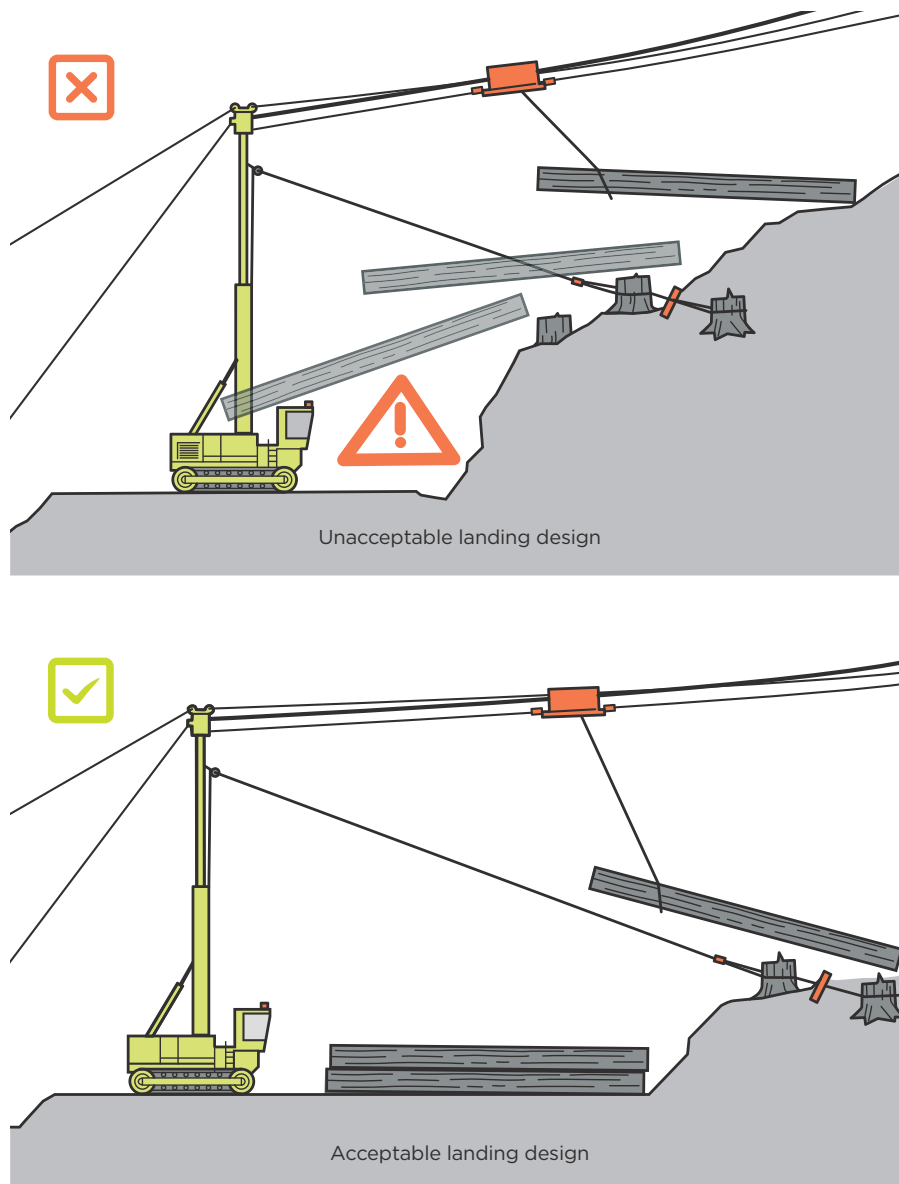

FIGURE 14:
15.4.6 Figure 14 shows examples of different landing sites.
- 15.4.7 For downhill yarding, make sure landings are large enough to have sufficient space between the base of the slope and the tower to allow for safe landing of logs without endangering the yarder. It is industry practice to have at least 1.5 tree lengths (Figure 14).